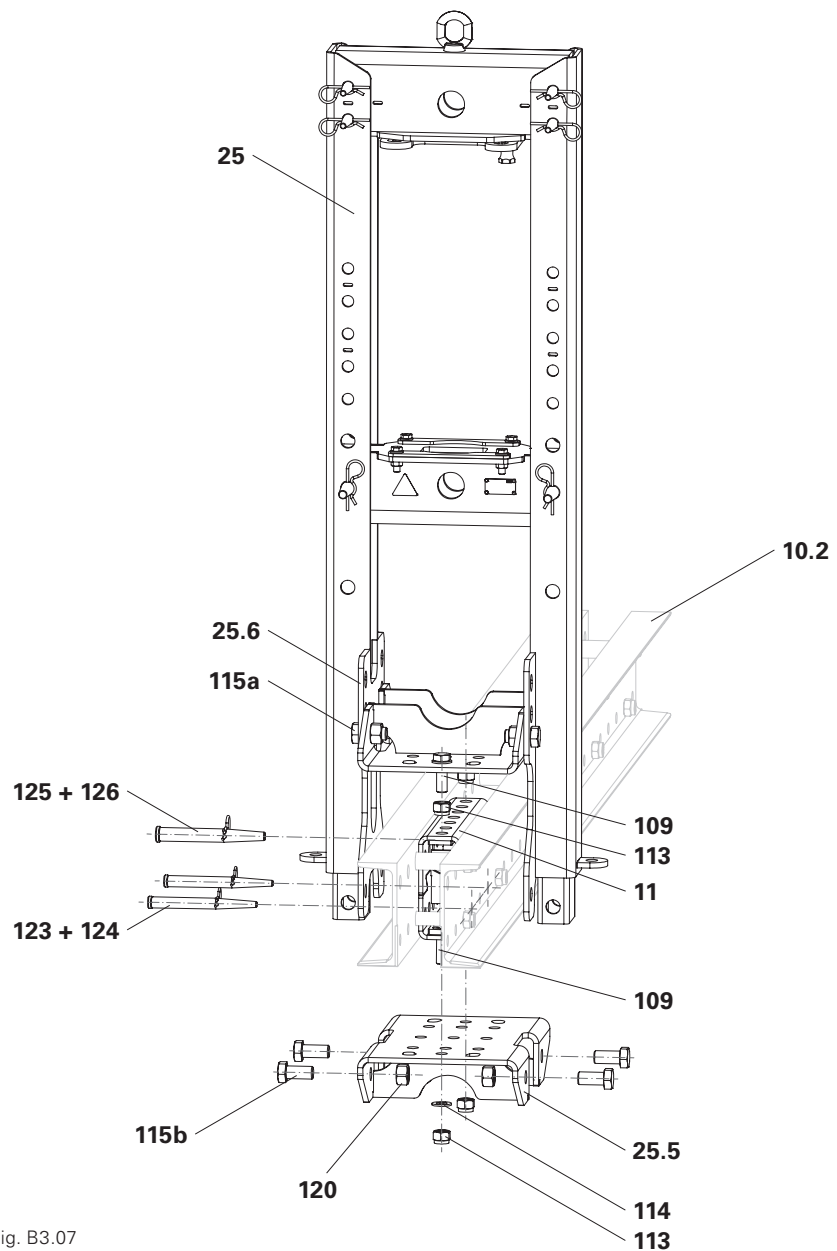

Fig. B3.07
1. Connect two Multiadaptors RCS (11) to form one assembly unit.
2. Fix the assembly unit in the top row of holes at the designated assembly position with filler pin 26x120 (125) and secure with Cotter Pin 5/1 ga (126).
3. Fix the assembly unit in the bottom row of holes with two filler pins 21x120 (123) and secure with Cotter Pins 4/1 ga (124).
5. Attach the liftframe (25) to the crane lifting gear and fly in.
7. Fix the bottom girder connection (25.5) in its original position with bolts M24x50 (115b) and nuts M24 (120).
9. Fix the liftframe (25) to the Multiadaptor RCS assembly unit with bolts M20x60 (109), washers M20 (114) and self-locking nuts M20 (113).
11. Remove the crane lifting gear. (Fig. B3.07)